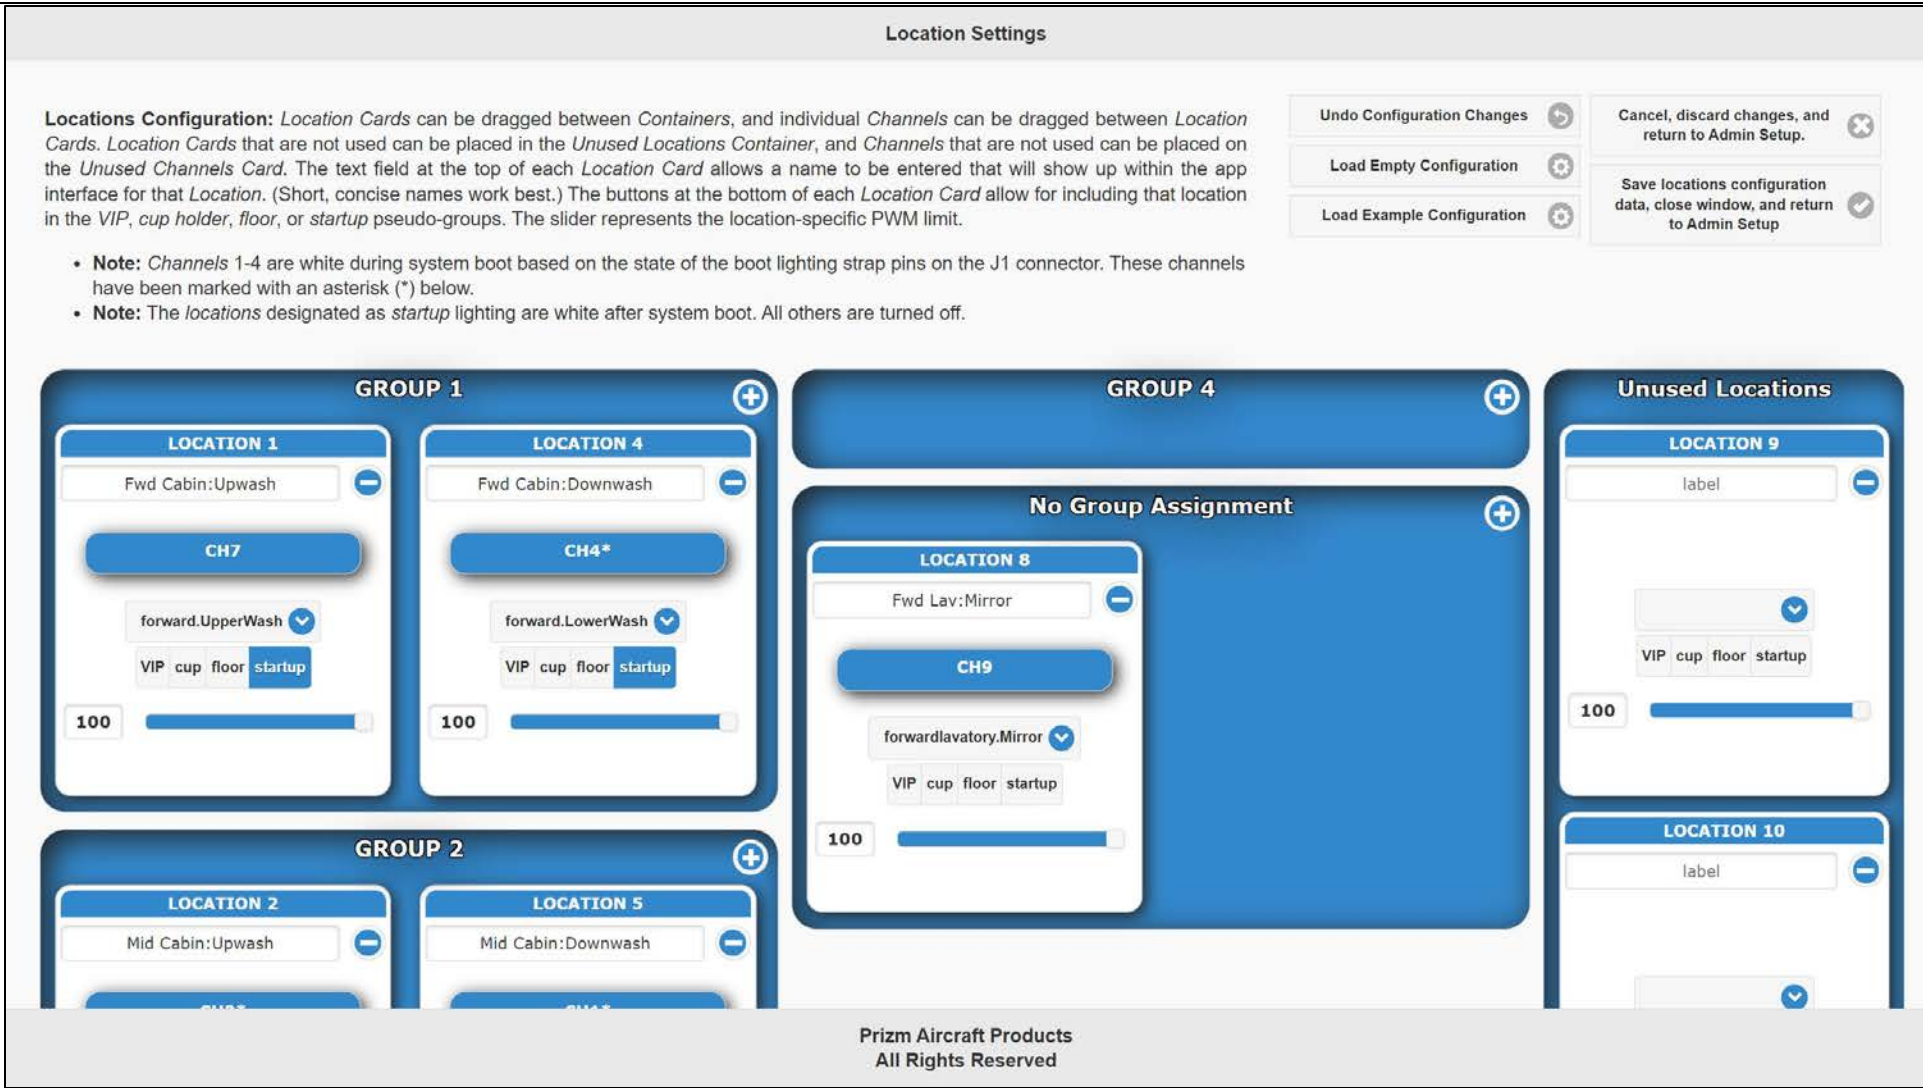

Figure 7-16 – Location Settings when Prizm+ Enhanced Ethernet Control enabled
1. **Location Settings Interface** – Opens by clicking the first button. See Figure 7-16 for the interface.